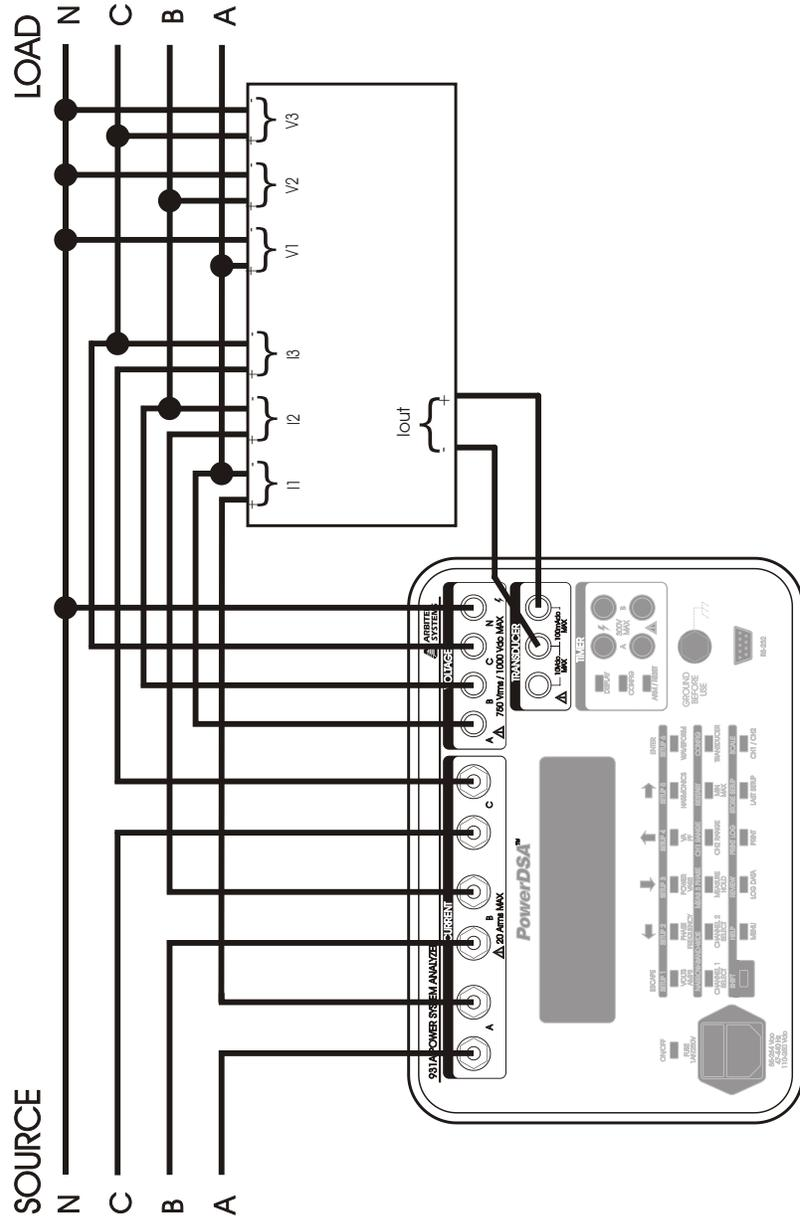

Figure 3.17: 3-Phase, 4-Wire, 3-Element Transducer Test
- **“3Ph 4 Wire 3E”** sets the Model 931A to measure values on a 3-phase Y circuit, for comparison to a 3-element transducer. See Figure 3.17. Use internal operating software definitions for inputs as follows: “VanIa”; “VbnIb”; and “VcnIc” (i.e., a sequential measurement of the following three combinations: voltage “A” to “N” with current “A”; voltage “B” to “N” with current “B”; and voltage “C” to “N” with current “C”).